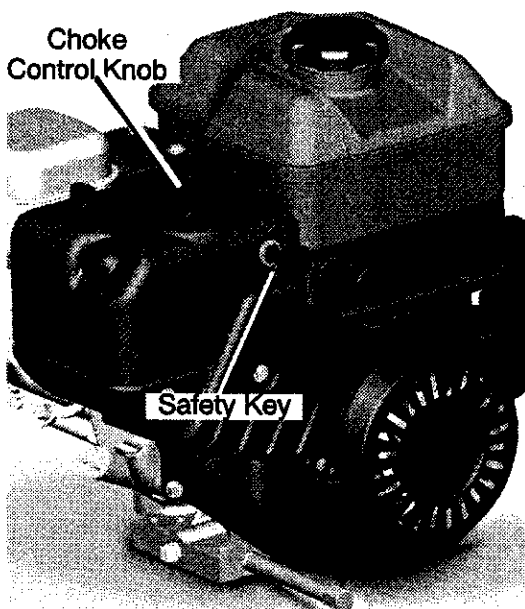

Figure 21
1. Remove the choke control knob (see Figure 21).